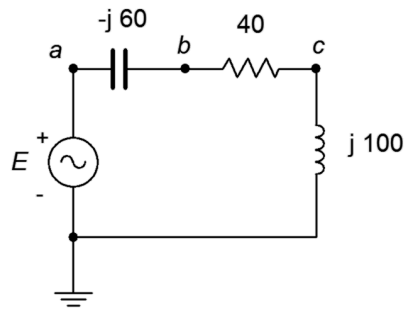

Figure 2.25
43. For the circuit of Figure 2.25, determine the circulating current and the voltages across each component. E is a 2 volt RMS 1 kHz sine. Also, draw a phasor diagram of the four component voltages.